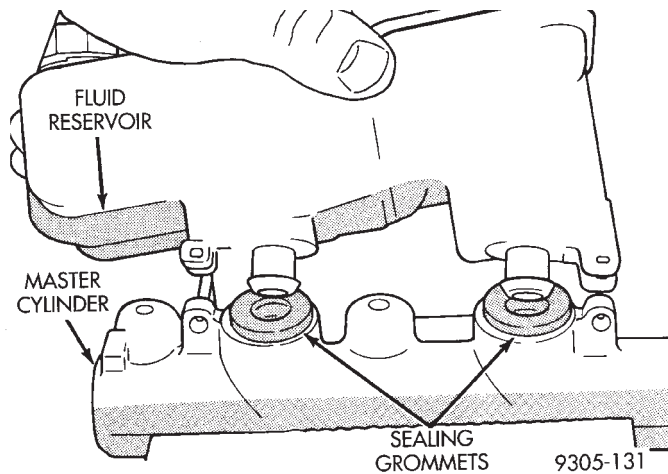

Fig. 157 Removing Reservoir
(6) Remove reservoir from master cylinder (Fig. 157) by pulling upward on the reservoir while rock it from side to side.